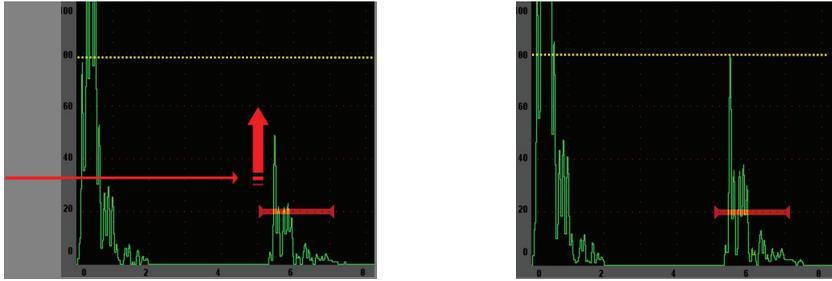

Figure 2-8 The AUTO XX% feature
- Pressing **[2ND F]**, **(AUTO XX%)** activates the AUTO XX% feature, which automatically adjusts the gain in order to set the gated echo amplitude to XX% of full screen height (the default XX value is 80 %). (See Figure 2-8 on page 37.)